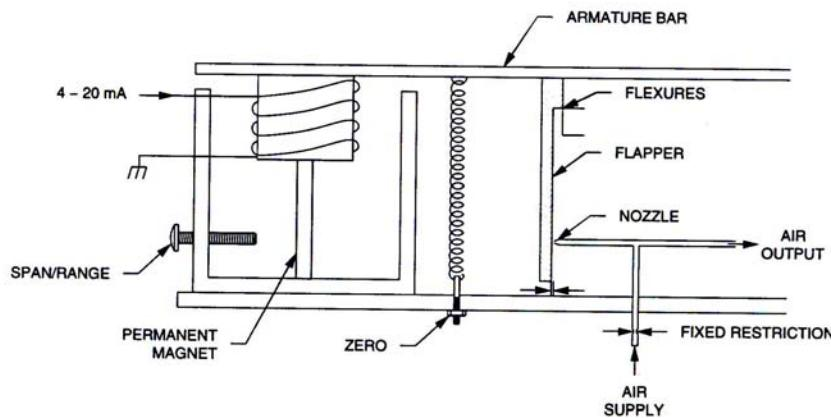

Figure 5-1. Simple Current to Pressure Converter.
There are many designs for these detectors, but the basic principle almost always involves the use of a nozzle/flapper system. The nozzle/flapper, shown in Figure 5-1, is a subassembly used to convert a mechanical motion into a pressure change. When a current flows through the coil, a force is produced which tends to pull the flapper down and reduce the gap between the flapper and the nozzle. Typically, if the flapper/nozzle clearance changes from 0.0038 cm (0.0015 inch) to 0.0025 cm (0.0010 inch), the nozzle back pressure changes from 20 kPa (gage) (3 psig) to 102 kPa (gage) (15 psig). The result of the increase in signal current, therefore, is an increase in air output pressure.
1. What is one of the main disadvantages of the I/P Converter design of Figure 5-1?